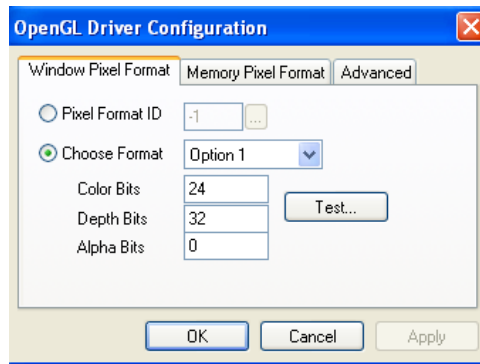

Figure 5-74 OpenGL Driver Configuration dialog box
4. In the *OpenGL Driver Configuration* dialog box (Figure 5-74), select **Pixel Format ID** and enter this number.